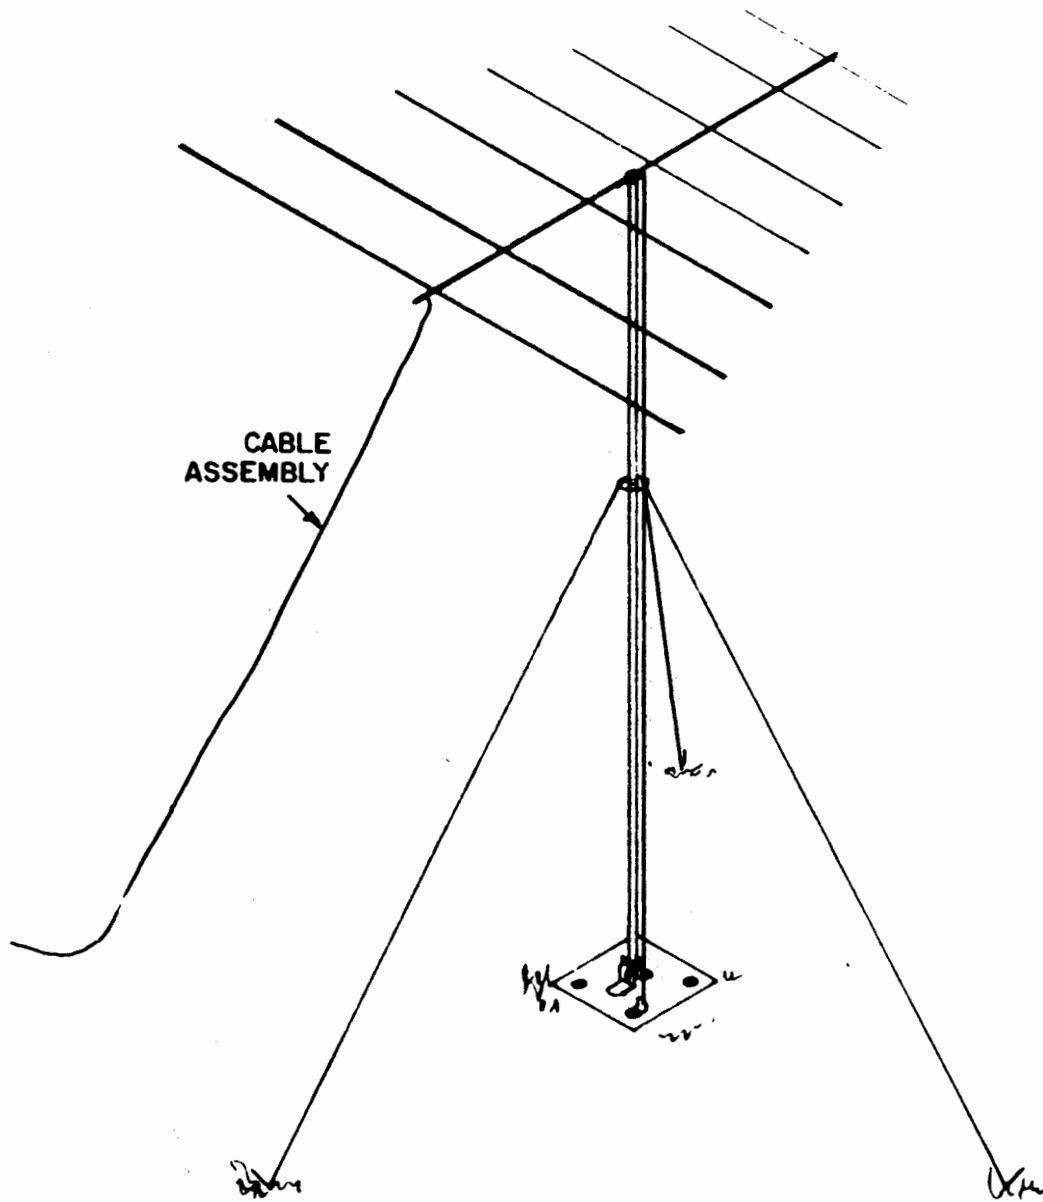

Figure 1-13 Antenna in Raised Position
m. Connect the cable assembly to the transceiver. The antenna is now ready for use in horizontally polarized mode. If vertical polarization is required, release polarization rope at mast base assembly, and allow the antenna to rotate into vertical position. Refer to Figure 1-13.